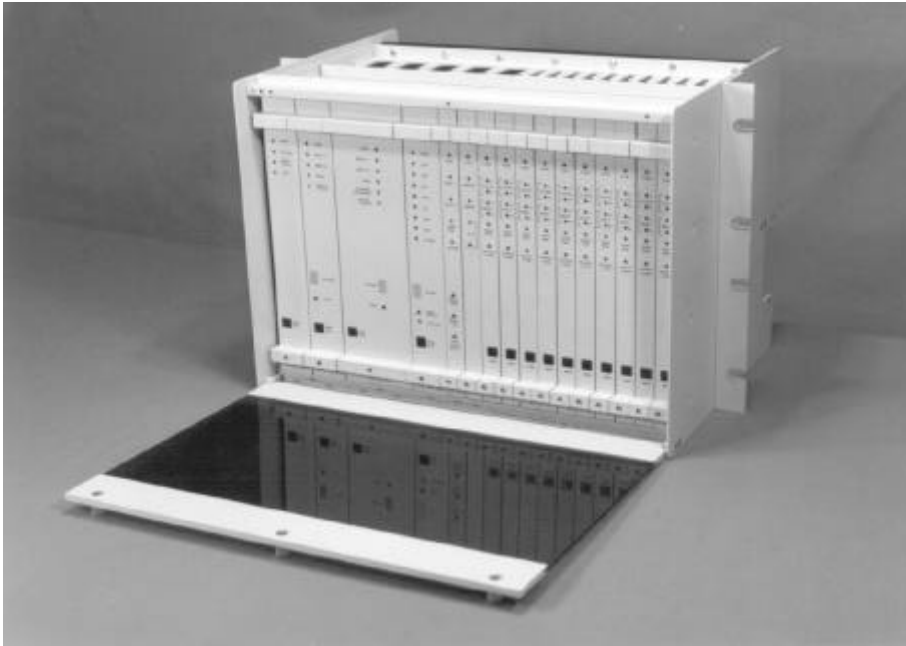

Figure 1-1. Model STS 5400 Synchronization Timing System
- 1.11 This document is Volume 1 of this practice series and describes the Larus Model STS 5400 Synchronization Timing System and its theory of operation. The STS 5400 is shown in Figure 1-1. This volume is intended for planners, engineers, and general users.